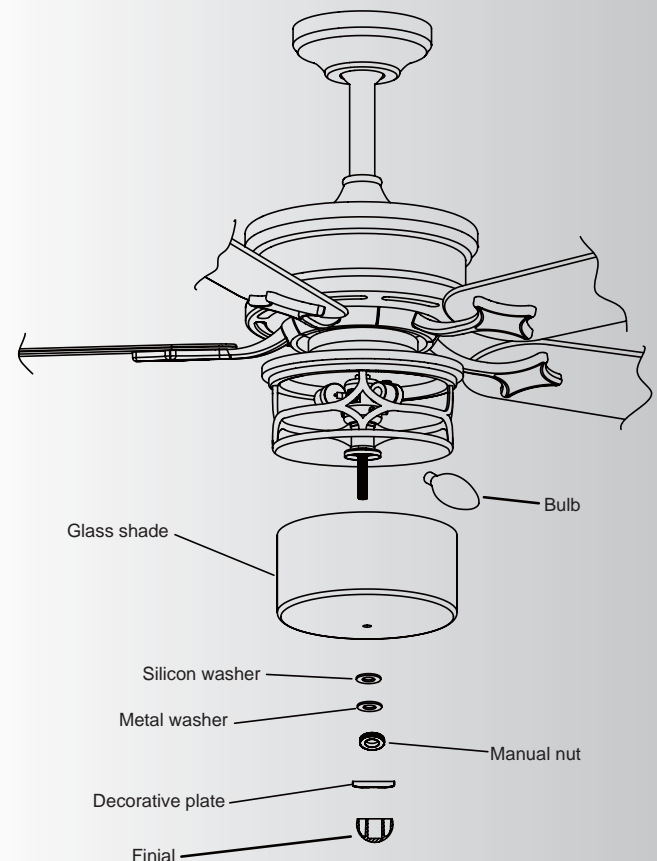

Fig. 23
Step 1. Install the light bulbs (included). Slide the glass bowl over the threaded pipe. Place the silicon washer, metal washer and thread the manual nut onto the pipe. Place the decorative plate and tighten the glass bowl with the finial. (Fig. 23)